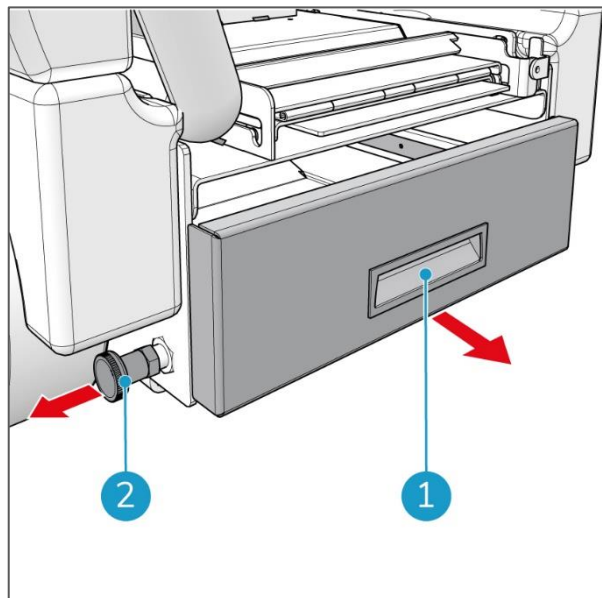

Figure 14
2. Pull out the locking pin on the left side (Figure 14, pos 2) of the battery drawer.
3. Pull out the battery drawer by the black handle (Figure 14, pos 1), until it locks into place.